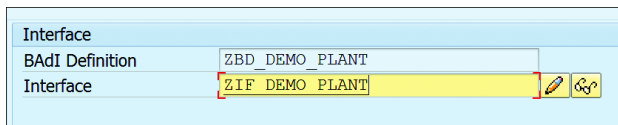

Figure 20.41 Defining Interface
2. On the screen now displayed, provide the interface name and click on the pencil icon, as shown in Figure 20.41.